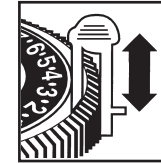

Figure 1
1. Insert ON (green) and OFF (red) trippers into dial at desired ON and OFF times (Fig. 1).